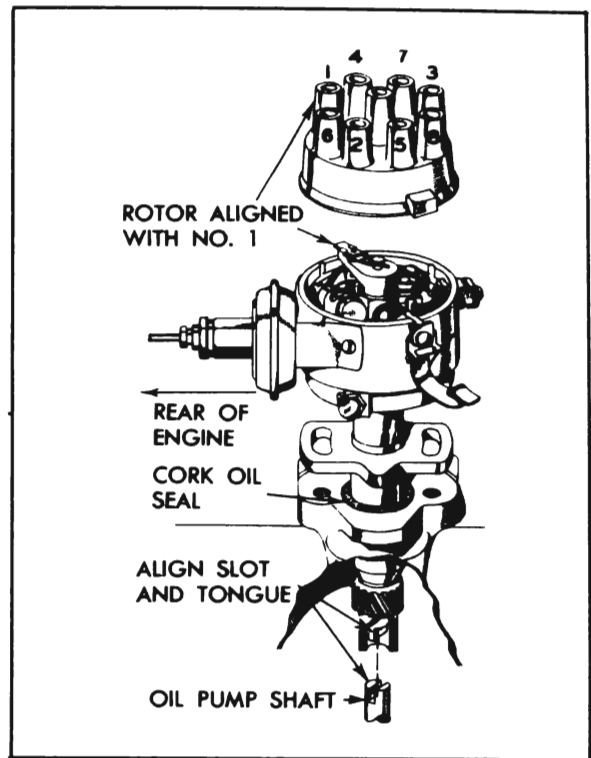

Figure 10-89—Position of Distributor for Installation
4. Rotate oil pump shaft with screw driver to align slot in shaft with tongue on lower end of distributor shaft. Install distributor in crankcase with vacuum control pointing to rear of engine and approximately parallel to side of crankcase. See figure 10-89.